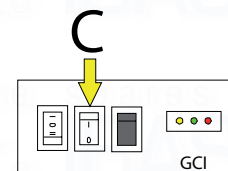

Fig. 1
- 1 To adjust every single module it is necessary to set switch 'C' (see Fig. 1) to position I.